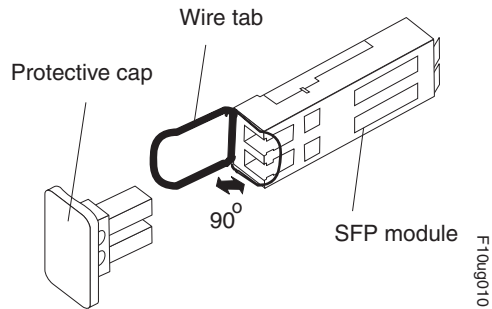

Figure 90. Unlocking the SFP module latch - wire variety
- For SFP modules that contain wire tabs, unlock the SFP module latch by pulling the wire latch outward 90°, as shown in Figure 90 on page 150.